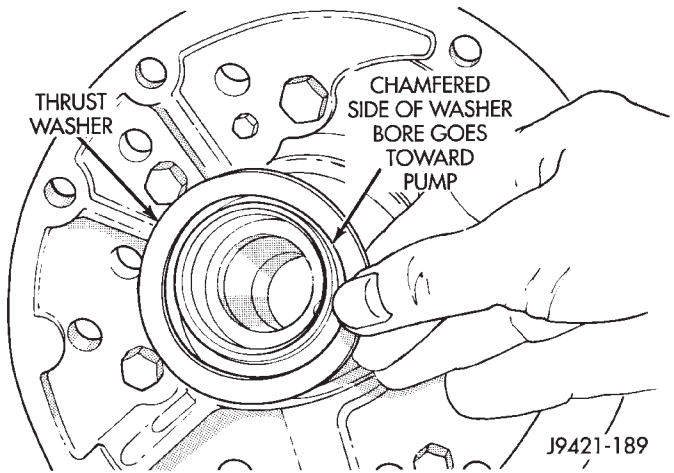

Fig. 156 Front Clutch Thrust Washer Installation
(7) Coat front clutch thrust washer with petroleum jelly to hold it in place. Then install washer over reaction shaft hub and seat it on pump (Fig. 156).